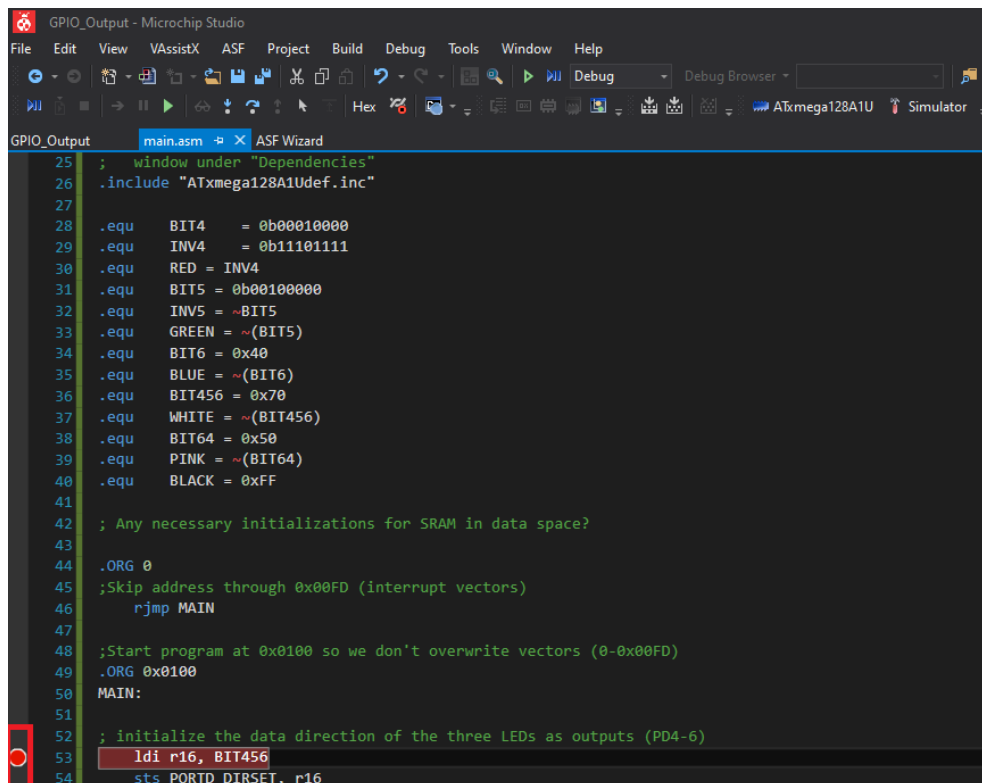

Figure 11: Breakpoint at first instruction of the given program, along with the debug Continue icon.
- Place a breakpoint in your code editor on the first assembly instruction within your *main* program: `ldi R16, BIT456`, by using your mouse to click the pane to the far left of the instruction. A red dot will appear next to this specified instruction, as shown in *Figure 11*.